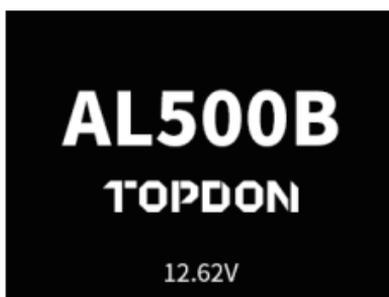

Figure 3.1.6
5. When the scan tool is properly connected to the DLC, the units will start initializing and present you with the main menu interface. (See Figure 3.1.6)